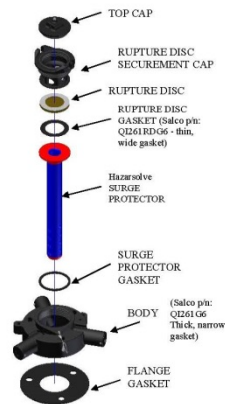

Figure 2
- Inspect the rupture disc (Figure 2). Replace disc if it is missing a white gasket, or a clear teflon gasket, any signs of discoloration or if the disc is blown.
- Rupture disc. DO NOT REMOVE ANY CLEAR TEFLON OR WHITE GASKET FROM THE DISC (Figure 2)